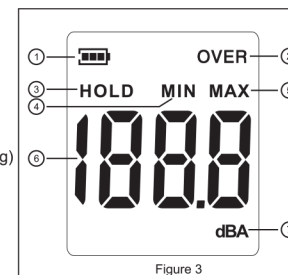

Figure 3
D. LCD Display (referring to Figure 3)